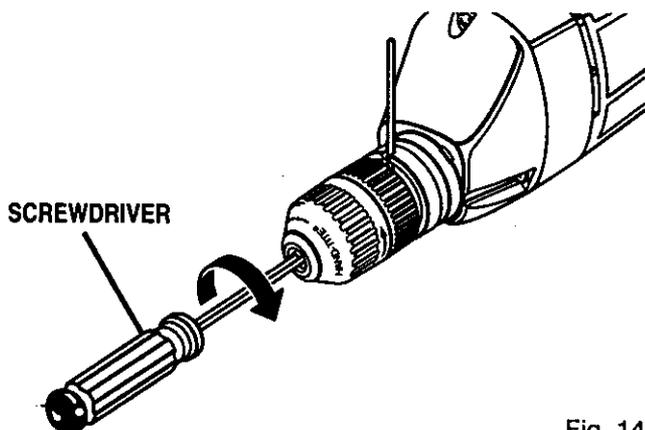

Fig. 14
- Remove the chuck screw by turning it in a clockwise direction. See Figure 14. Note: The screw has left hand threads.